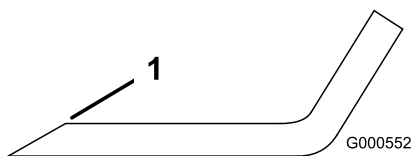

Figure 53
1. Use a file to sharpen the cutting edge at both ends of the blade (Figure 53).
Note: If the blade is not balanced, file some metal off the end of the sail area only (Figure 53).